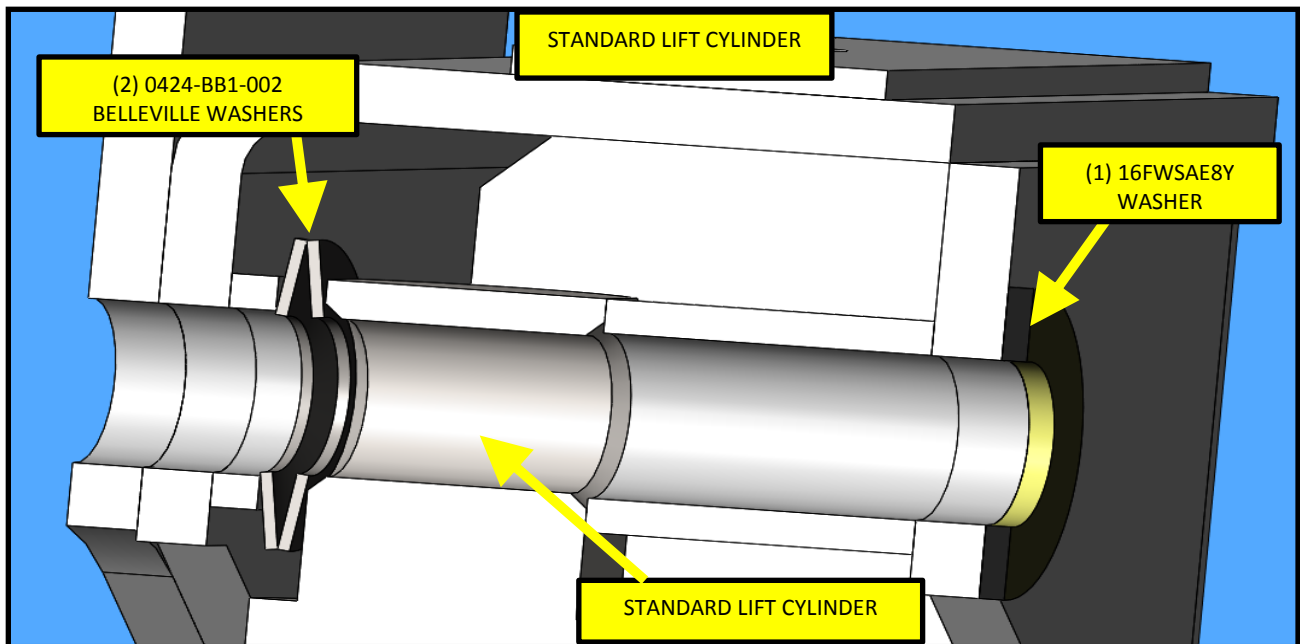

FIG. 20-2
- b. Insure that the Belleville washers are oriented correctly. Refer to FIG 20-2.